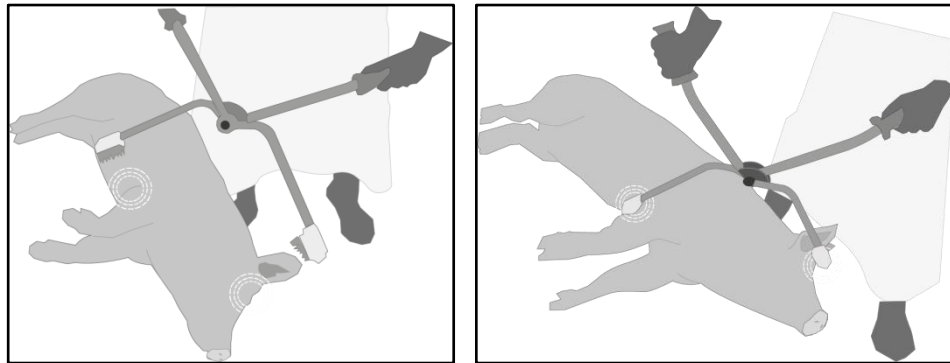

Fig. 6-4 Ideal electrode contact positions
2. Immediately apply the electrodes of the stun tong to the heart and the base of the ear of the animal lying on the ground (see markings in Fig. 6-4):